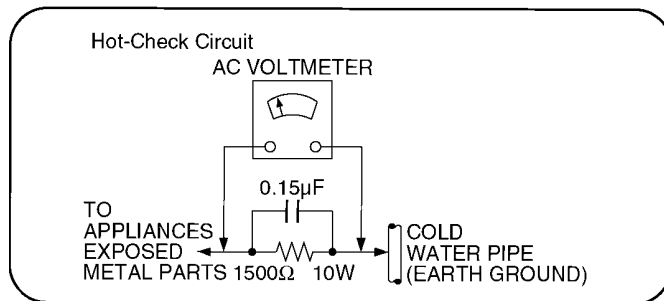

Figure 1
1.1.2. Leakage current hot check (See Figure 1 .)
2. Connect a $1.5\text{k}\Omega$, 10 watts resistor, in parallel with a $0.15\mu\text{F}$ capacitors, between each exposed metallic part on the set and a good earth ground such as a water pipe, as shown in Figure 1.